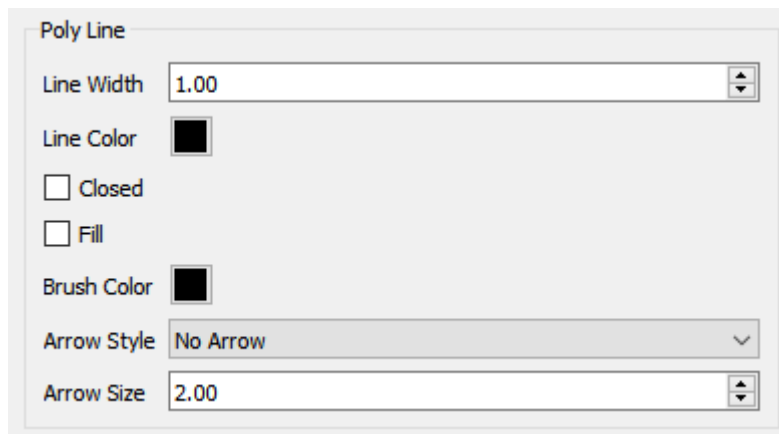

Figure 13.28: The view tool for a polyline.
- To add a polyline or polygon, click the  icon. Click once in the workspace to define the first point; click additional points to add, and then double click to finish. Properties are adjusted with the View tool shown in Fig. 13.28.